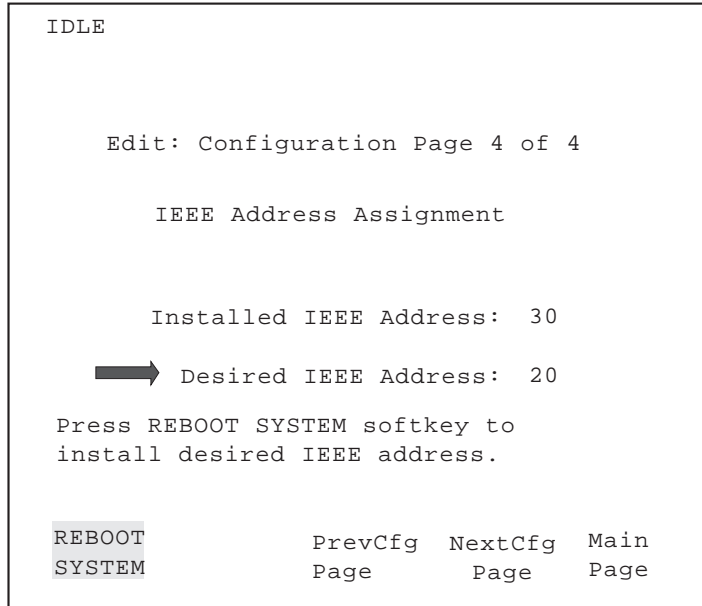

Figure 3-11 Setting IEEE-488 Address
3. On Configuration Page 4 (Figure 3-11), highlight the desired IEEE Address field, type the new address, and press **Enter**.